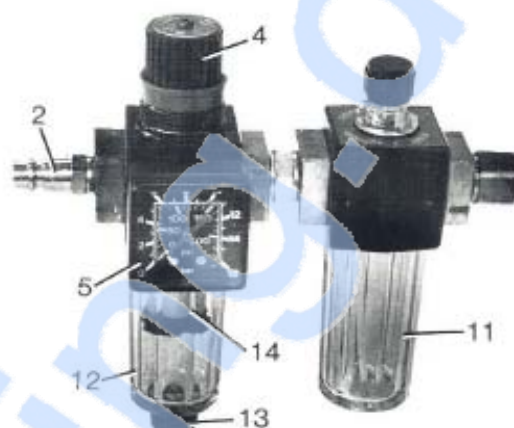

Fig.2
Install the pressure regulator and the oil mist lubrication device (fig 2) at a suitable place as close to the filler as possible. Connect a 1/4" air hose to the connection of the pressure regulator 2 (fig 2). From this there is a 8 mm air hose to the hand valve 3 (fig 1), from which there are two air hoses: one 8 mm which supplies compressed air for the working of the filler and one 6 mm which is for the control of the filler.
Open and adjust the hand valve 4 (fig 2) so that the pressure gauge 5 (fig 2) shows 6 kg/cm².
- 1.1 That there is oil in the oil mist lubricator 11 (fig 2).
- 1.2 That the air filter 12 (fig 2) is drained by the valve 13 (fig 2).
Clean the filter 14 (fig 2) once a month, preferably by means of blowing.